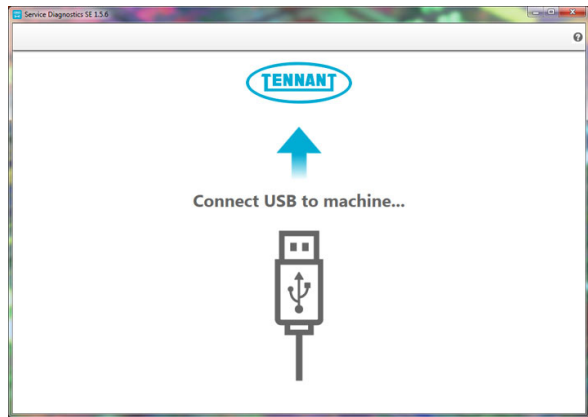

FIG. 18
2. Start the Service Software Application program. The following screen will appear. (Fig. 18)